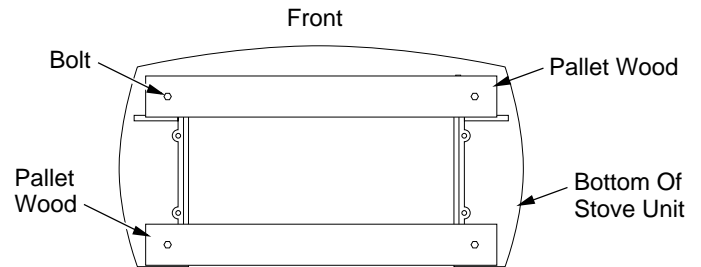

Figure 7 - Removing Pallet Wood From The Bottom of The Stove
- Remove remaining pallet wood attached to bottom of stove body (see Figure 7). Use an adjustable wrench to remove bolts.